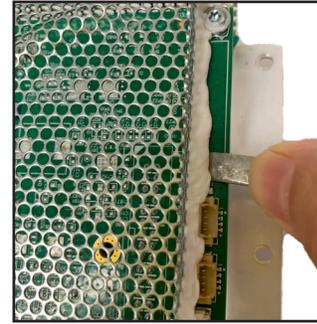

Figure 19. White Glue Removal
4.4 Use a spudger to separate the white glue from the edge of PCB as indicated in Figure 19.